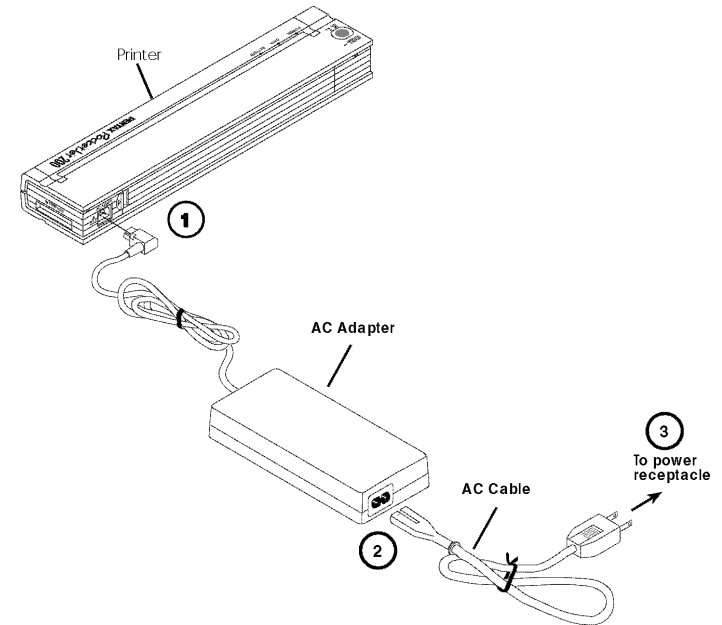

FIGURE 2. Connecting the printer to an AC power outlet
1. Connect the AC adapter to the printer as shown in Figure 2.
NOTE: *The plug on the AC power cord shown in Figure 2 is compatible with AC power outlets in the U.S.A., Canada, and some Central and South American countries. Use a plug adapter if necessary or contact your local reseller or Pentax for further assistance.*